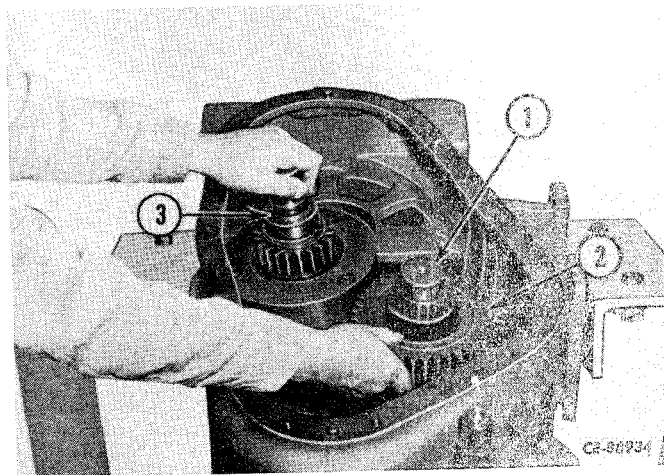

Figure 4-39
Tilt the 2nd and 3rd speed pack (1, Fig. 4-39) toward the bottom of the transmission and remove the reverse driven gear (2) from the countershaft.